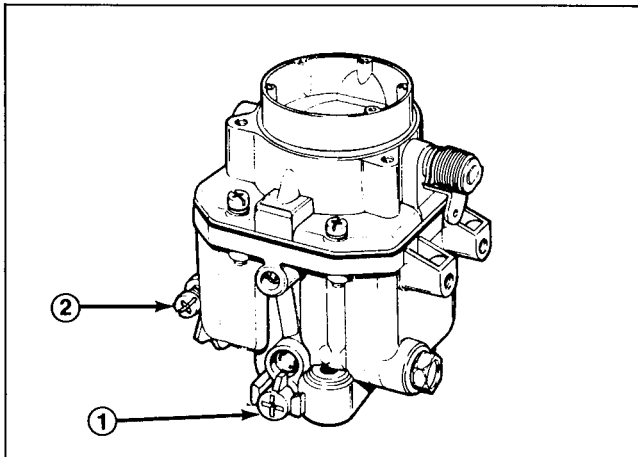

Figure 34
1. Idle Mixture Screw (Fig. 34) — Close idle mixture screw by gently rotating it clockwise.